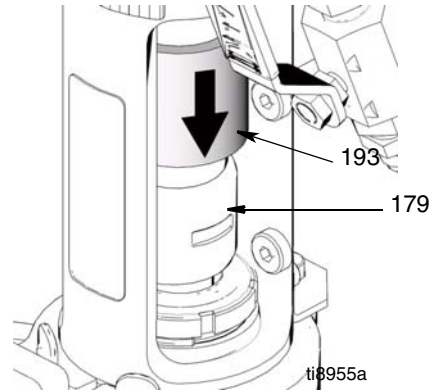

FIG. 25
6. (Fig. 25) Slide couple cover (193) down over rod couplers (179).